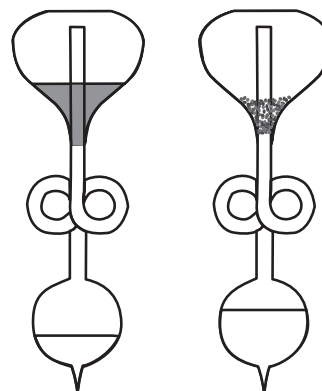

Figure 3.
5. Observe that after only a few seconds, clear ethanol distillate condenses in the lower bulb. After 10–20 minutes all that is left in the top bulb is solid dye with clear distillate in the bottom bulb (see Figure 3).